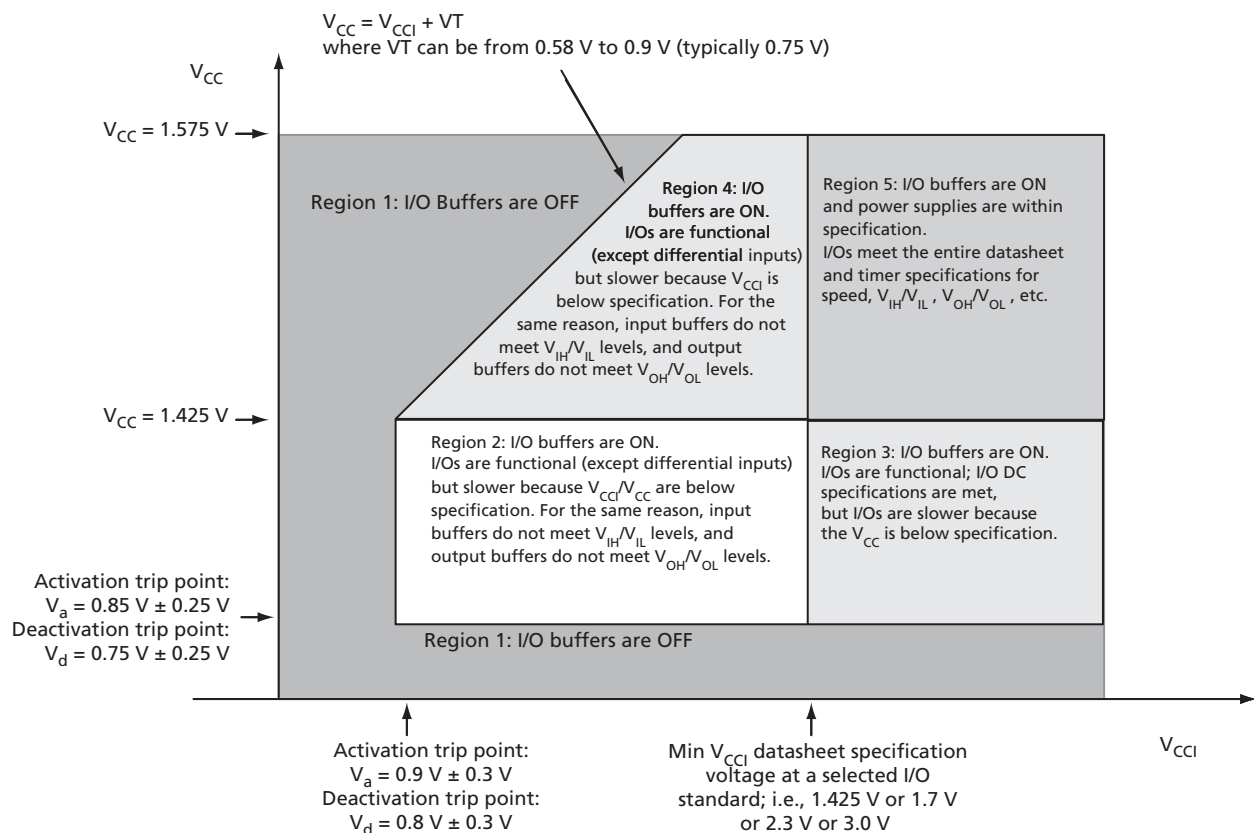
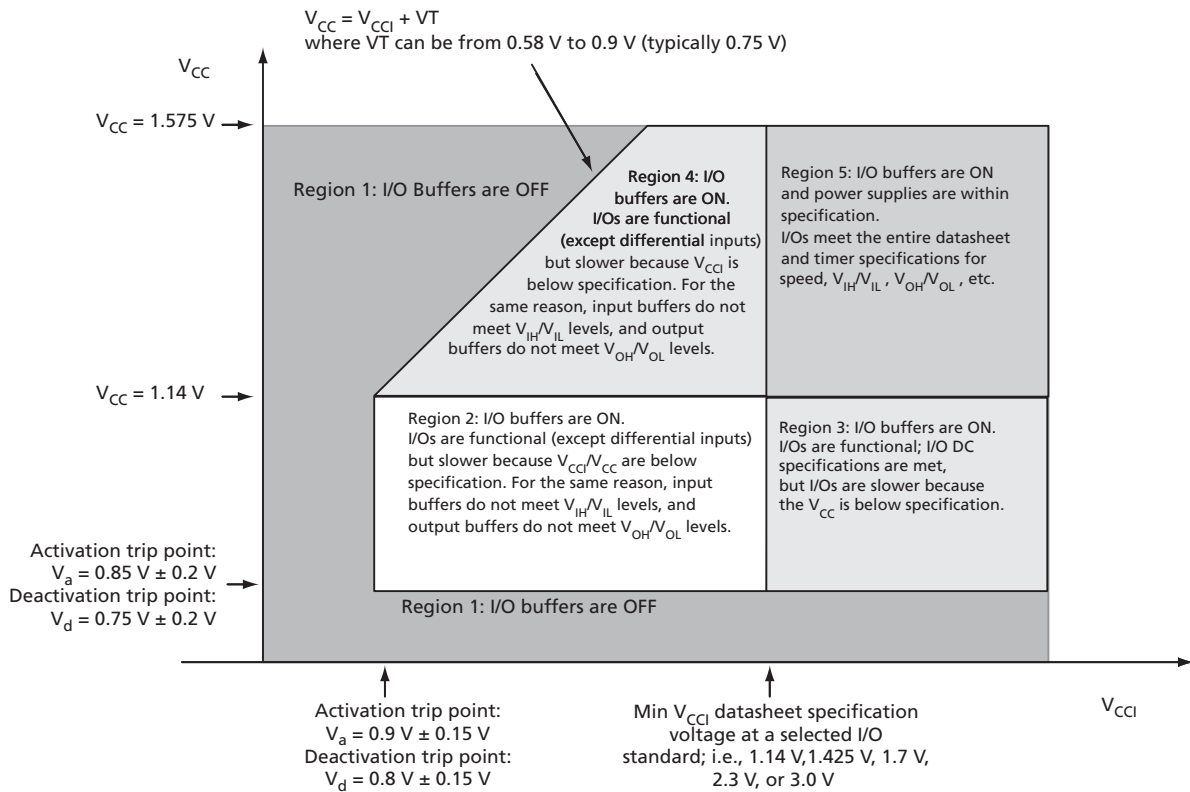

Figure 2-2 • Devices Operating at 1.5 V Core – I/O State as a Function of V_{CCI} and V_{CC} Voltage Levels
Figure 2-3 • Device Operating at 1.2 V Core Voltage – I/O State as a Function of V_{CCI} and V_{CC} Voltage Levels
Sophisticated power-up management circuitry is designed into every ProASIC®3 device. These circuits ensure easy transition from the powered-off state to the powered-up state of the device. The many different supplies can power up in any sequence with minimized current spikes or surges. In addition, the I/O will be in a known state through the power-up sequence. The basic principle is shown in Figure 2-2 on page 2-5 and Figure 2-3 on page 2-6.
1. V_{CC} and V_{CCI} are above the minimum specified trip points (Figure 2-2 on page 2-5 and Figure 2-3 on page 2-6).
Actel recommends using monotonic power supplies or voltage regulators to ensure proper power-up behavior. Power ramp-up should be monotonic, at least until V_{CC} and V_{CCPLX} exceed brownout activation levels. The V_{CC} activation level is specified as 1.1 V worst-case (see Figure 2-2 and Figure 2-3 on page 2-6 for more details).